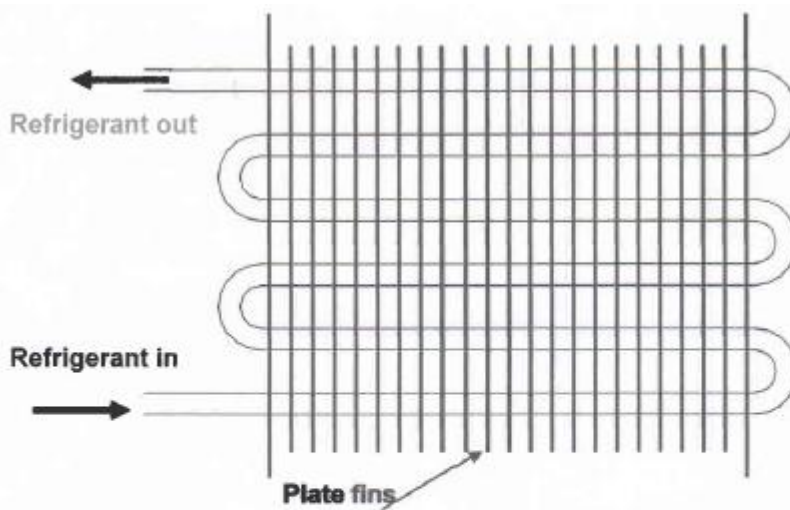

Fig.22.3: Forced convection, plate fin-and-tube type condenser
In forced convection type condensers, the circulation of air over the condenser surface is maintained by using a fan or a blower. These condensers normally use fins on air-side for good heat transfer. The fins can be either plate type or annular type. Figure 22.3 shows the schematic of a plate-fin type condenser. Forced convection type condensers are commonly used in window air conditioners, water coolers and packaged air conditioning plants. These are either chassis mounted or remote mounted. In chassis mounted type, the compressor, induction motor, condenser with condenser fan, accumulator, HP/LP cut-out switch and pressure gauges are mounted on a single chassis. It is called condensing unit of rated capacity. The components are matched to condense the required mass flow rate of refrigerant to meet the rated cooling capacity. The remote mounted type, is either vertical or roof mounted horizontal type. Typically the air velocity varies between 2 m/s to 3.5 m/s for economic design with airflow rates of 12 to 20 cmm per ton of refrigeration (TR). The air specific heat is 1.005 kJ/kg-K and density is 1.2 kg/m³. Therefore for 1 TR the temperature rise $\Delta t_a = 3.5167 / (1.2 \times 1.005 \times 16 / 60) = 10.9^\circ\text{C}$ for average air flow rate of 16 cmm. Hence, the air temperature rises by 10 to 15°C as compared to 3 to 6°C for water in water cooled condensers.